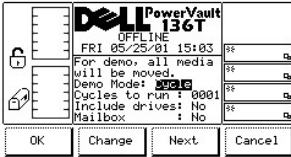
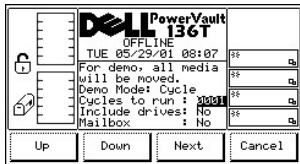

Figure 106. Service > Library > Exercise > Demo Using Cycles Dialog
Figure 107. Service > Library > Exercise > Demo > Cycles to run Dialog
When Demo is selected, the Demo Dialog is displayed. Refer to Figure 106. This option executes an operator configured demonstration routine.
- 1 If the button beneath the **Next** softkey is pressed, the next field in the list is made the active field, refer to Figure 107. After reaching the end of the field list, the active field reverts to the first field in the list, refer to Figure 106.
Refer to the Table associated with Figure 106.